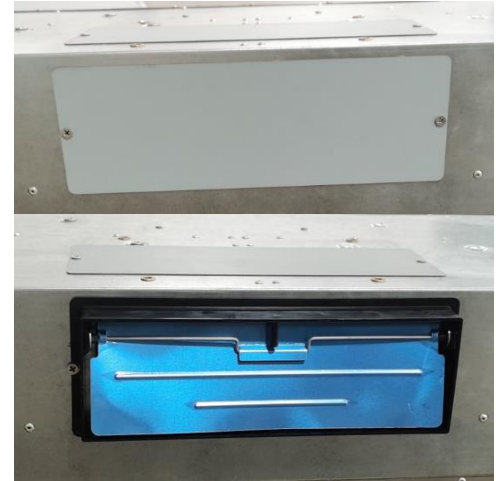

Figure 4
10. For Rear 3-1/4" x 10" Rectangular vent installation only: Remove attached 6" Round vent and discard. Keep seven screws to install the rectangular vent. Align and secure Top Vent Cover with seven screws to block the top exhaust (Figure 3). Remove the duct knockout from back of the hood. Keep the screws and discard the duct knockout. Then align and secure 3-1/4" x 10" Rectangular with two screws (Figure 4).